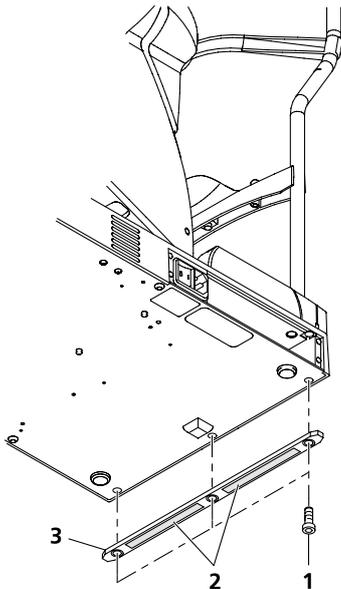

Fig. 7 Mounting holding bracket
The IOLMaster can be permanently secured with the aid of a holding bracket (**3**, Fig. 7). Holding brackets with two different thicknesses are available:
- Remove the three hexagon socket screws (SW3) (**1**, Fig. 7). The screws may be very difficult to loosen.
- Attach the holding bracket with adhesive strips (**2**, Fig. 7) facing outwards.
- Now lift/tilt the device slightly and remove the protective film (**2**, Fig. 7).